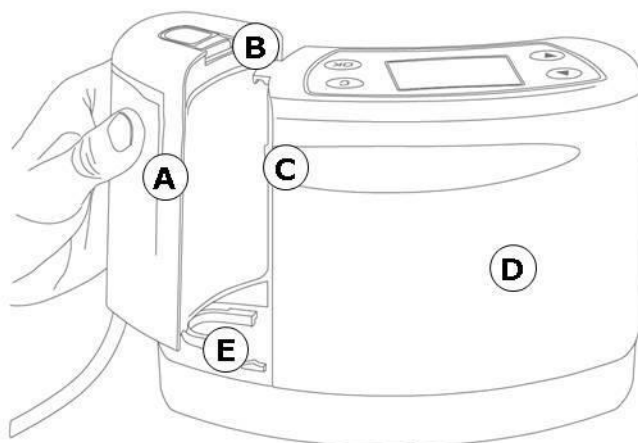

Fig. 5 Connecting the disposable secretion canister
1. Remove the disposable secretion canister (fig. 5 (A)) from the packaging.
2. Slide the canister onto the guide rail (fig. 5 (E)) of the **ASSKEA procuff® M** until the disposable secretion canister clicks into place in the locking mechanism (fig. 5 (B)).
The connection of the disposable secretion canister (750 ml) is carried out according to Fig. 5.